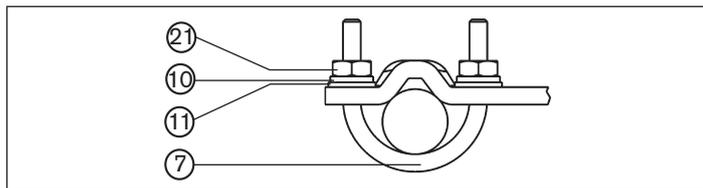

Fig. 11: Attach positioner with mounting bracket; for actuators with columnar yoke
→ Attach mounting bracket to the columnar yoke with the U-bolt ⑦, washers ⑪, circlips ⑩ and hexagon nuts ⑫ (see “Fig. 11”).